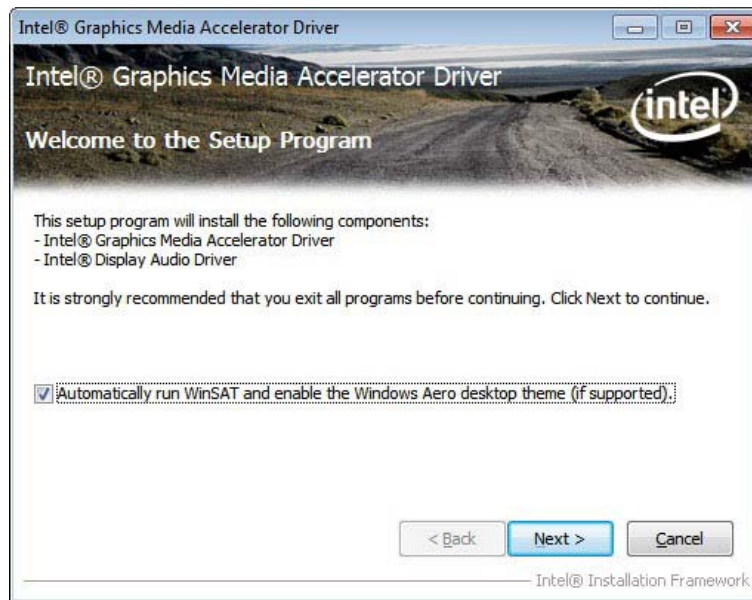

Figure 6-9: Graphics Driver Welcome Screen
- Step 5:** The **Welcome Screen** in **Figure 6-9** appears.